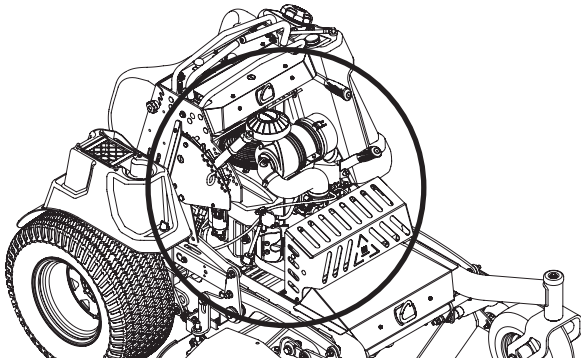

Figure 11
- Clean around the exhaust manifold, fuses, all wiring and harnesses, muffler pipe, muffler shield, engine intake screens and cooling fins, etc (Figure 11).